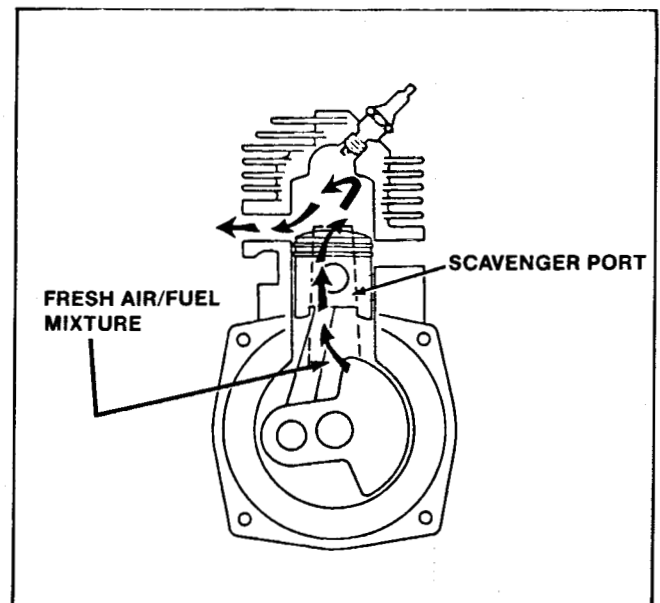

Figure 85
9. The scavenger ports are uncovered resulting in a fresh air/fuel mixture being forced into the combustion chamber by the lower crankcase pressure. Note that this process is not 100% efficient and that some exhaust gases are mixed with the fresh air/fuel mixture. See Fig. 85.